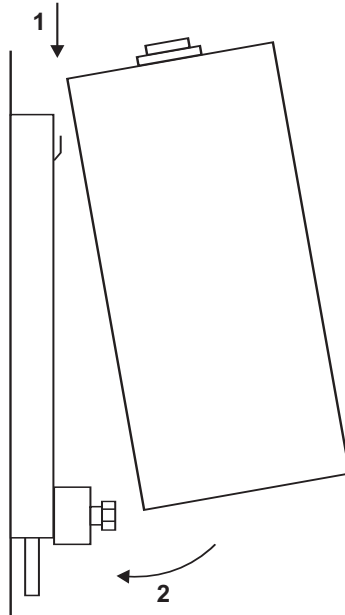

Fig. 6
e. Fit the Boiler to the Jig - See Fig. 6